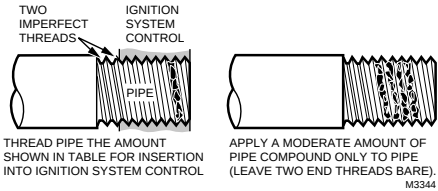

Fig. 4. Use moderate amount of pipe compound.
- 4. Apply a moderate amount of good quality pipe compound (do not use Teflon tape) only to the pipe, leaving two end threads bare as shown in Fig. 4. On LP installations, use a compound resistant to LP gas.
1. Remove pilot adjustment cover screw. See Fig. 4.